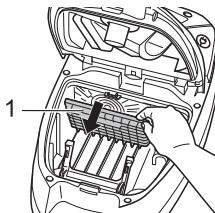

Fig.22
2. Remove the filter holder with motor protection filter (Fig. 22/1). Your first flip the filter holder forwards and then pull the filter up and out.